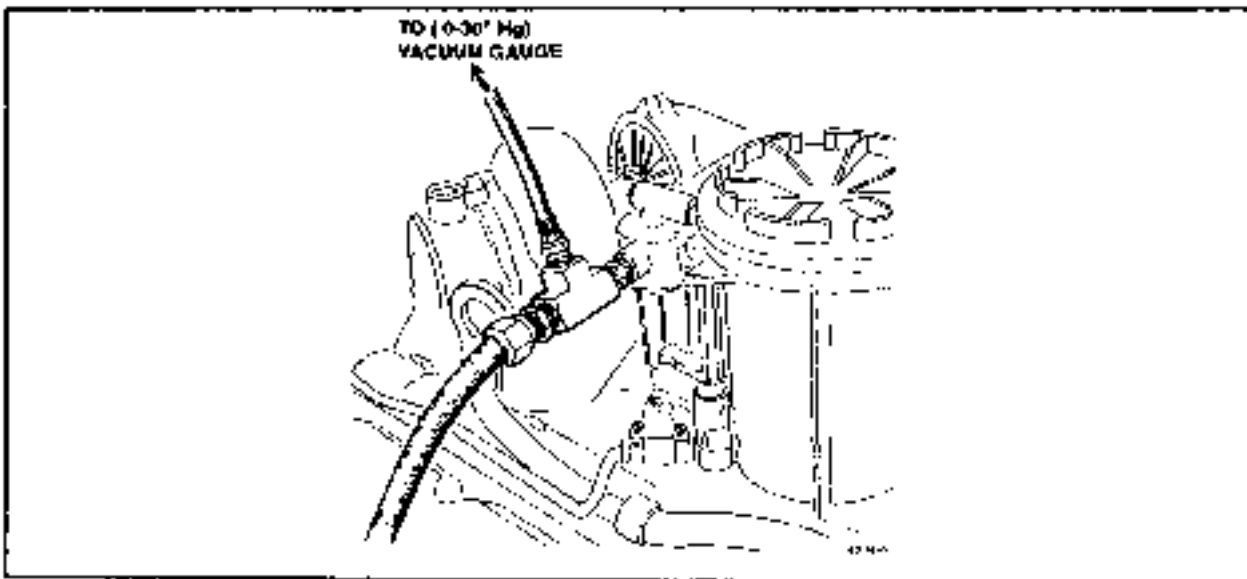

Figure 2.3-12. - Transfer Pump Restriction
1. Connect a tee between the fuel filter inlet and fuel supply line. (Figure 2.3-12.) Connect a line from the tee to the 0-30" Hg. vacuum gauge of the D-200 Pressure Test Kit (ZTSE-2239).